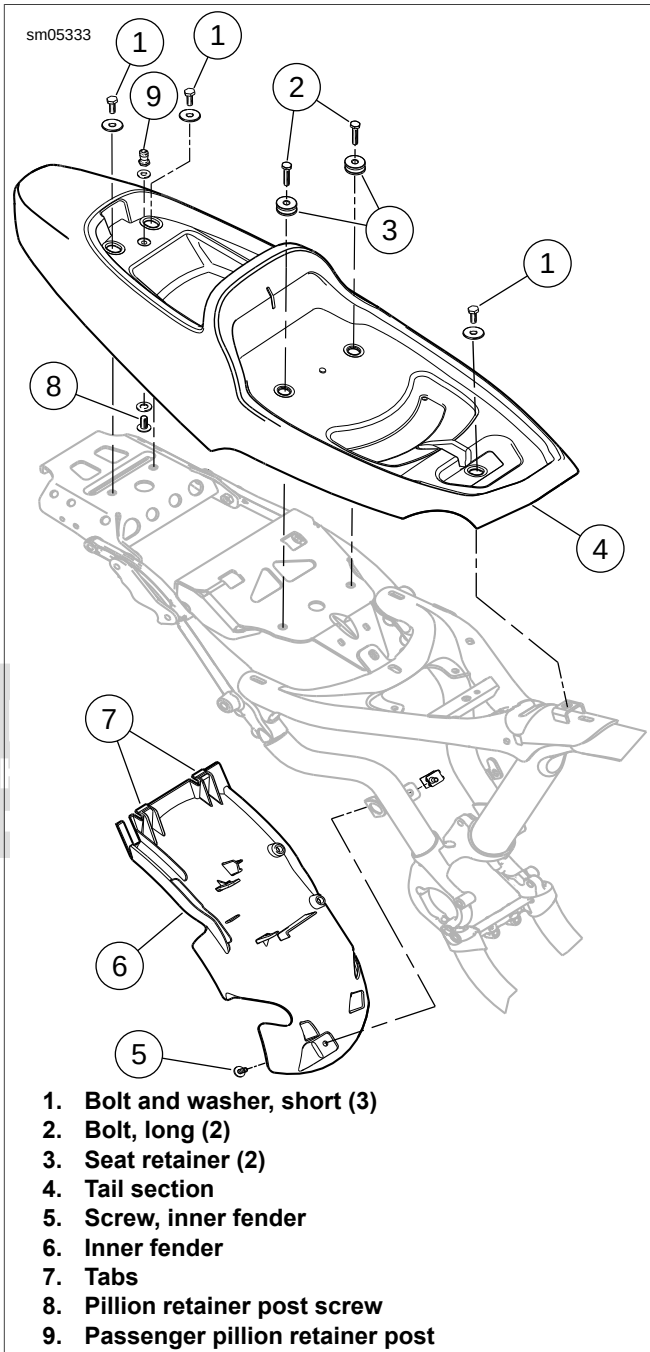

Figure 2-214. Rear Fender: XR 1200X
3. See Figure 2-214. Remove three bolts and washers (1). Remove two bolts (2) and retainers (3). Lift tail section (4) off from motorcycle.
4. Remove screw (5). Rotate inner fender (6) down and release tabs (7) from notches in frame.
1. See Figure 2-214. If removed, install passenger pillion retainer post (9). Tighten screw (8) to 36-60 in-lbs (4.1-6.8 Nm).
4. Verify that the tabs (7) are located in notches in frame and secure inner fender with screw (5). Tighten to 72-120 in-lbs (8.1-13.6 Nm).